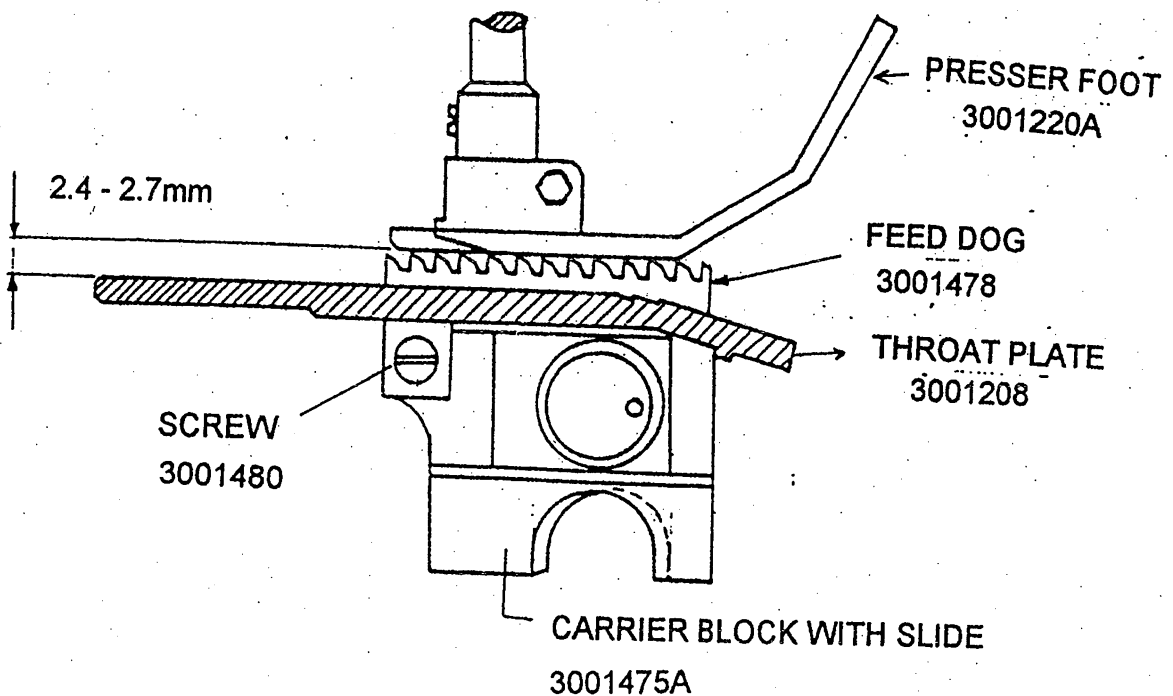

Fig.12
D) Adjustment / Sewing distance. (Fig. 12)